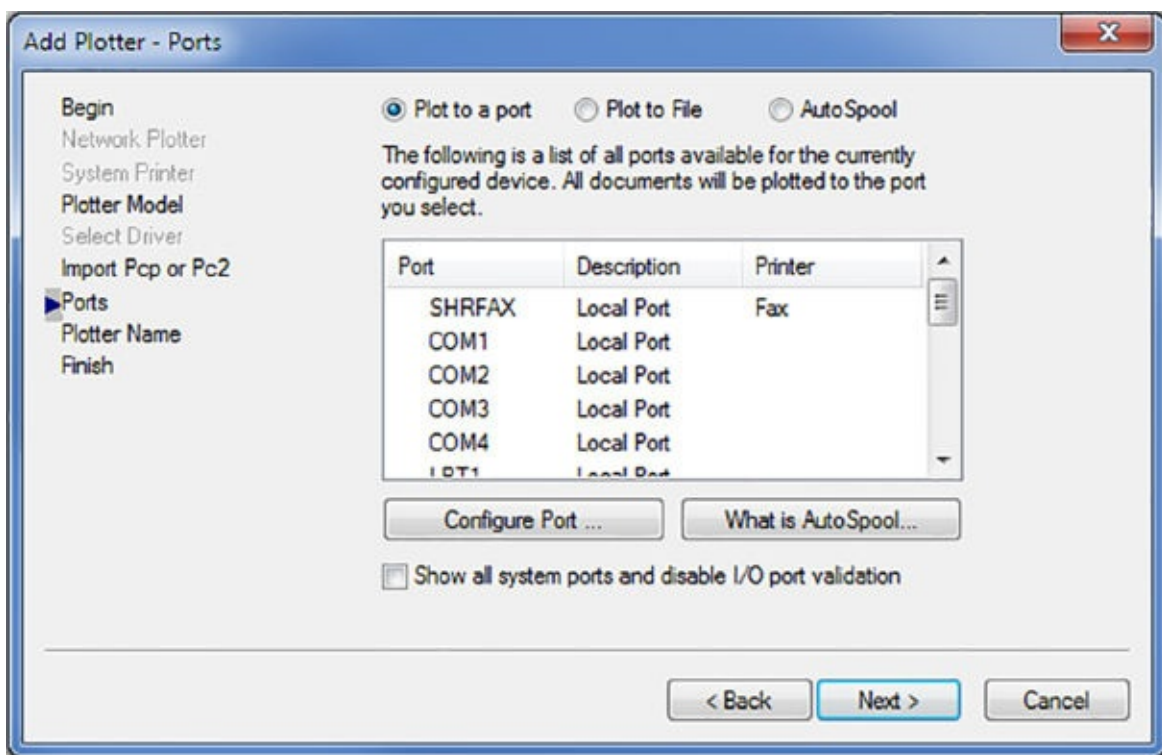

FIGURE 8.12 The Ports screen of the Add-A-Plotter Wizard
6. Unless you plan to use one of those files, click Next on the Import PCP Or PC2 screen. If you selected My Computer in step 3, the Ports screen opens (see Figure 8.12). With the Plot To A Port option selected, you can use the list to select a port to which your printer or plotter is connected. The Configure Port button lets you set up the port if you have a specific requirement for it. If you intend to plot to a file instead of to a port, you can select the Plot To File radio button at the top as an alternative. An AutoSpool option is also offered if your printer requires this feature.